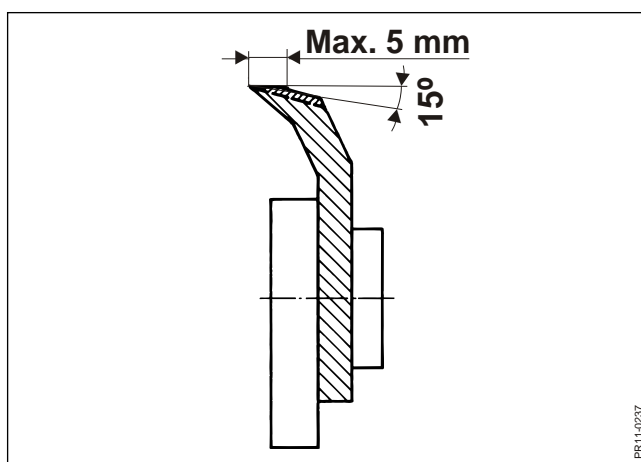

Fig. 4-33
- Fig. 4-33** To avoid unnecessary power consumption and excessive wear of the grindstone when operating the harvester, it is necessary to carry out a rough grinding or adjustment of the blades when the cutting edge is 5 mm wide or more. Grind the rear edge to an angle of approx. 15°.